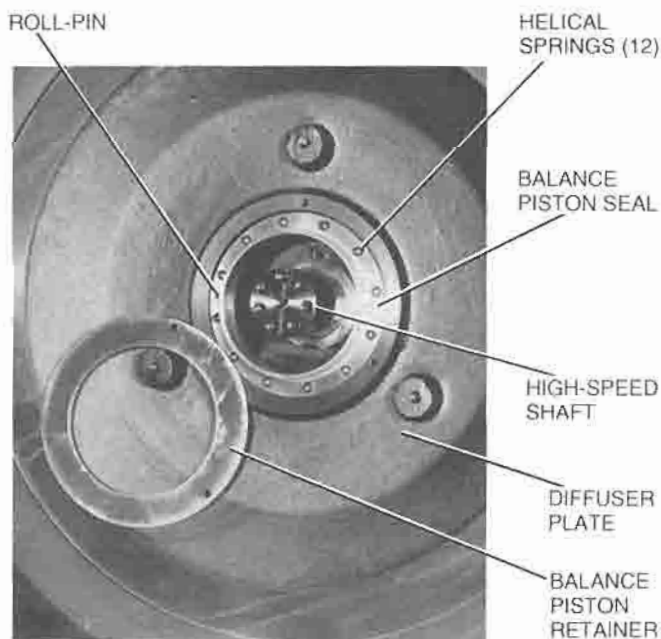

FIG. 14 - BALANCE PISTON
1. Remove the (3) socket head cap screws (shoulder bolts) that fasten the balance piston retainer and balance piston seal to the diffuser plate. (See Fig. 14) Remove the balance piston retainer and balance piston seal.